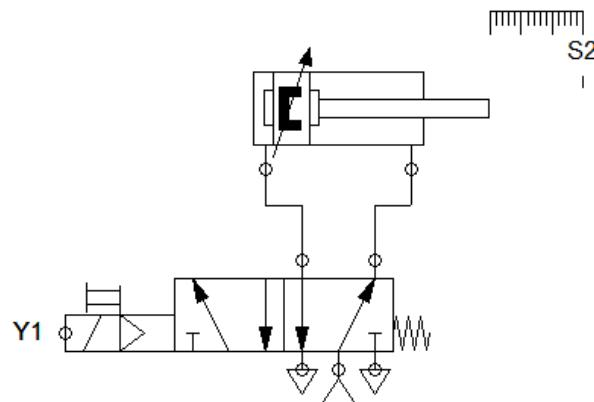

Figure 2(c) / Rajah 2(c)
- (c) Figure 2(c) below shows the pneumatic circuit that controls the movement of a double-acting cylinder. When switch S1 is pressed, the cylinder will move forward. The cylinder continues to move forward even when switch S1 is released until it reaches the maximum position, the cylinder will move backwards when limit switch S2 is activated. Propose an electrical circuit for this system.